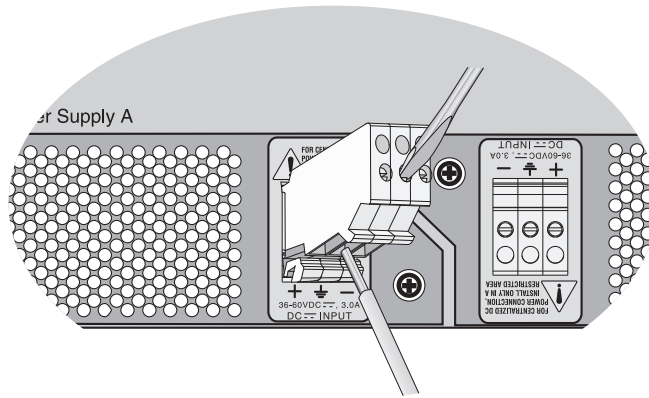

Figure 18. Connecting the Frame Ground Wire
4. Connect the frame ground wire to the terminal marked with the ground symbol by inserting the wire into the terminal block and tightening the connection with a flathead screwdriver, as shown in Figure 18.